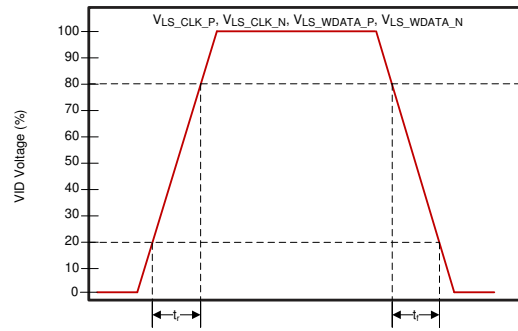

Figure 5-5. LSIF Rise, Fall Time Slew
- (2) See Figure 5-5 for rise time and fall time for LSIF.